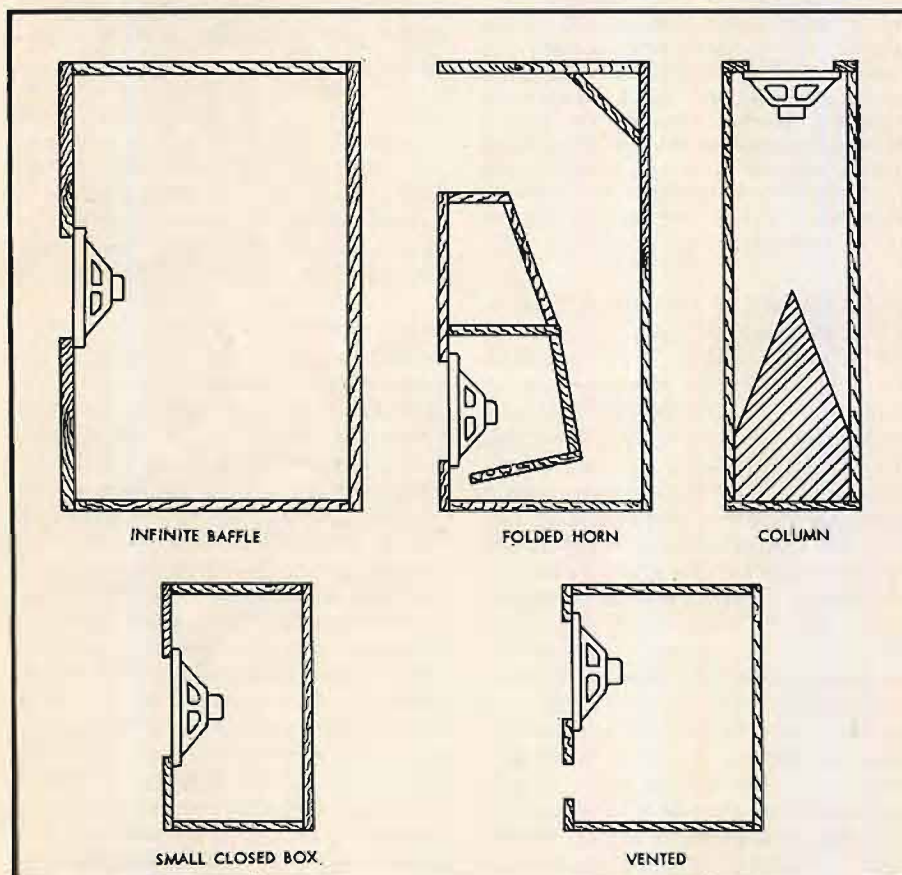
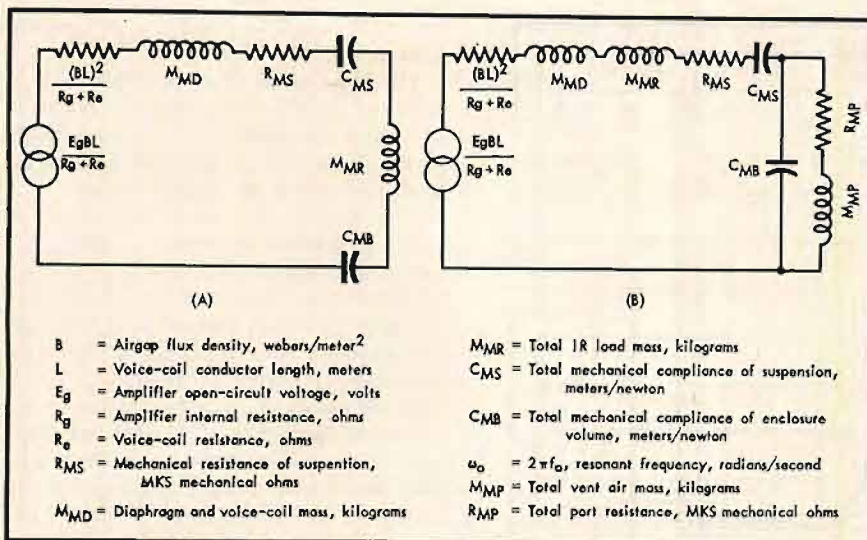

Fig. 1. Basic types of speaker enclosures.
Fig. 2. Mechanical equivalent circuits of direct radiator speakers in: (A), closed box, (B), in vented enclosure.
One of the principal factors leading to the choice of the 45/45 system as the R.I.A.A. Standard was the fact that in-phase information on the two channels could be made to appear as lateral modulation, making the system completely compatible with existing lateral monaural recordings. When two microphones are used with close spacing as they are in the X-Y system, Fig. 1, the dominant acoustical information is in-phase, particularly at the low frequencies. According to the R.I.A.A. Standards, this in-phase information should appear on the record as lateral modulation. In the M-S system of recording, Fig. 2, using vertical-lateral channels as opposed to 45/45, the output of the "M" micro-
Fig. 1. "X-Y" type of studio pick-up. Two figure-eight pattern microphones, such as ribbons, are used 90 deg. apart, each inclined 45 deg. to the sound source. The two outputs become the right and left modulations of the 45/45 stereo groove.
Fig. 2. "M-S" type of studio pick-up. As applied to vertical-lateral stereo disc recording, the M microphone feeds to the lateral channel, and the S microphone feeds the vertical channel. For 45/45 stereo disc recording, the two microphone outputs may be combined vectorially as $M + S$ and $M - S$. In either case, the M microphone output appears as lateral modulation on the disc.
kinship or identity with enclosure systems described and analyzed long ago in such classics on acoustics as handbooks by Olson, Beranek and others. There has been no basically new type of enclosure in this decade, but much worthwhile effort has been devoted to refinement and improvements of existing basic types. There are few basic types of enclosures for the dynamic speaker. These are, as shown in Fig. 1:
The power radiated at low frequencies and the shape of the response curve are determined by the Q of the complete loudspeaker system, which includes the speaker, enclosure, and amplifier. (A) in Fig. 2 shows the low-frequency equivalent mechanical circuit of the complete closed-box system.